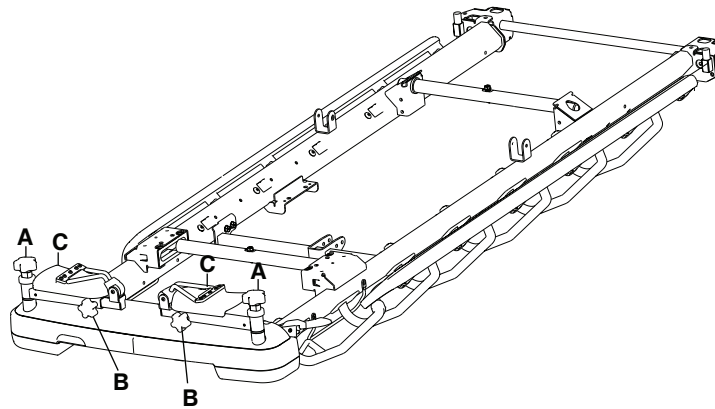

Figure 22 – Stowing the foot supports
3. Loosen the leg knob (B) on the side of the foot supports to adjust the length.
4. Tighten the leg knob (B) to lock the foot supports in the desired position.
5. Flip the foot supports (C) up before you position the patient.
6. Reverse steps to stow the foot supports (Figure 22).